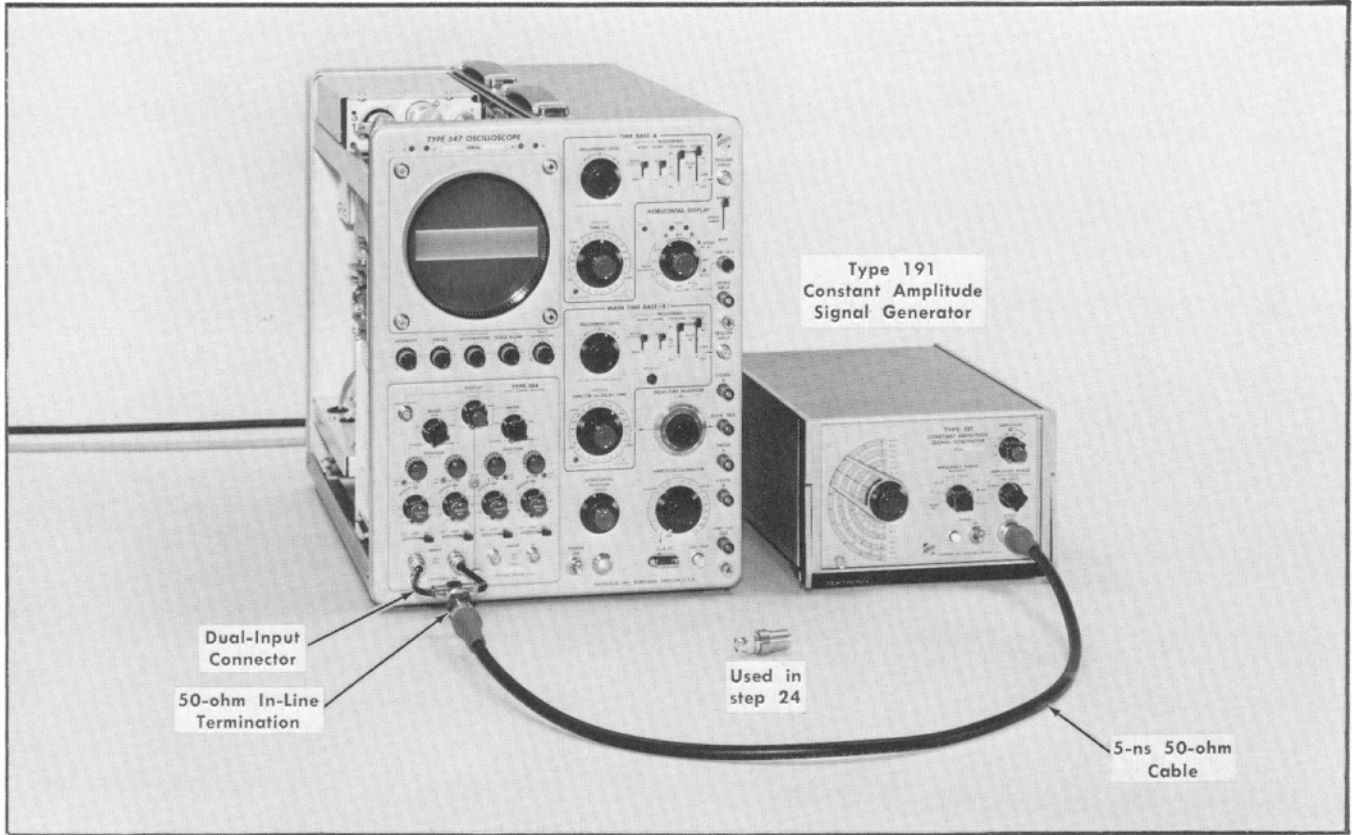

Fig. 7-29. Test equipment setup for steps 22 through 24.
a. Test equipment setup, with connections made at completion of step 22c, is shown in Fig. 7-29.
c. Apply the 10-MHz signal from the Type 191 Output connector through a 5-ns cable, a 50-ohm in-line termination and a dual-input connector to the Type 1A4 Channel 1 and 2 Input connectors (see Fig. 7-29).
a. Equipment required for this setup is shown in Fig. 7-29.
a. Equipment required for this setup is the same as shown in Fig. 7-29.